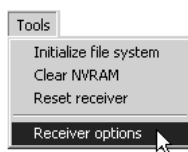

Figure 3-15. Tools ▶ Receiver Options
2. Click **Tools ▶ Receiver Options** (Figure 3-15).